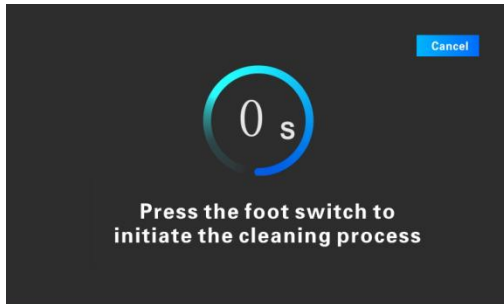

Figure 12
D) Cleaning function (Figure 12)